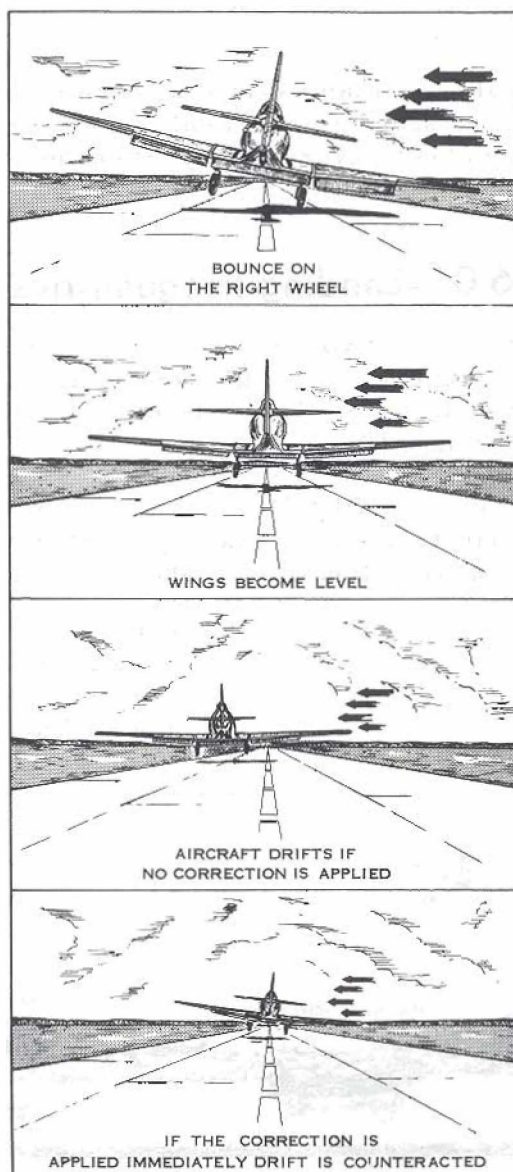

Figure 5: Bounce in a Crosswind
(3) If a bounce occurs during a cross-wind landing, the wing which is being held down into wind comes up, as shown in Figure 5, and the wings remain level for an instant. During this instant, you must lower the up-wind wing to keep the aircraft from drifting, and at the same time take action to correct the bounce.